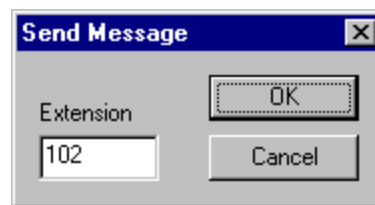

Figure 28. Send Message
7. From the **Options** menu, choose **Send Message**. The *Send Message* pop-up is displayed, as shown in *Figure 28*.